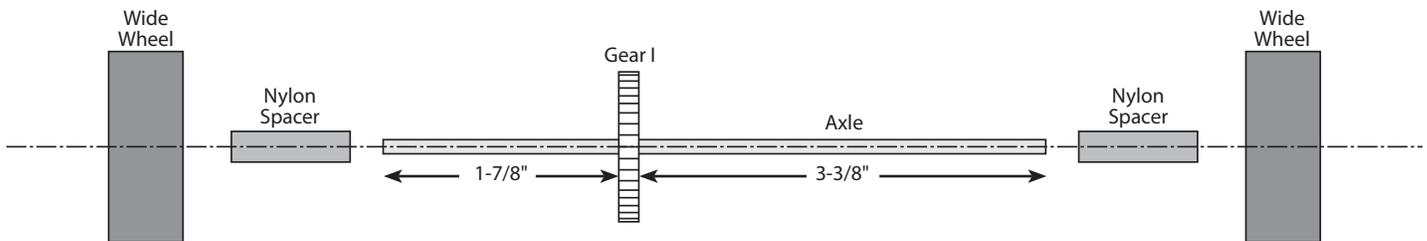

Figure 4
- Place the gear on a table. Insert one of the axles into the gear. Slide the gear 1-7/8" from one end of the axle. It should be 3-3/8" from the other end of the axle (Figure 4).
- Slide two nylon spacers onto the axle, one on each side of the gear (Figure 4).